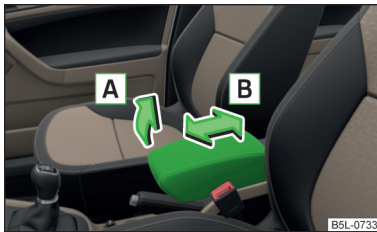

Fig. 59
- To **adjust the height**, lift the armrest in the direction of the arrow **A** into one of the six locking positions » Fig. 59.